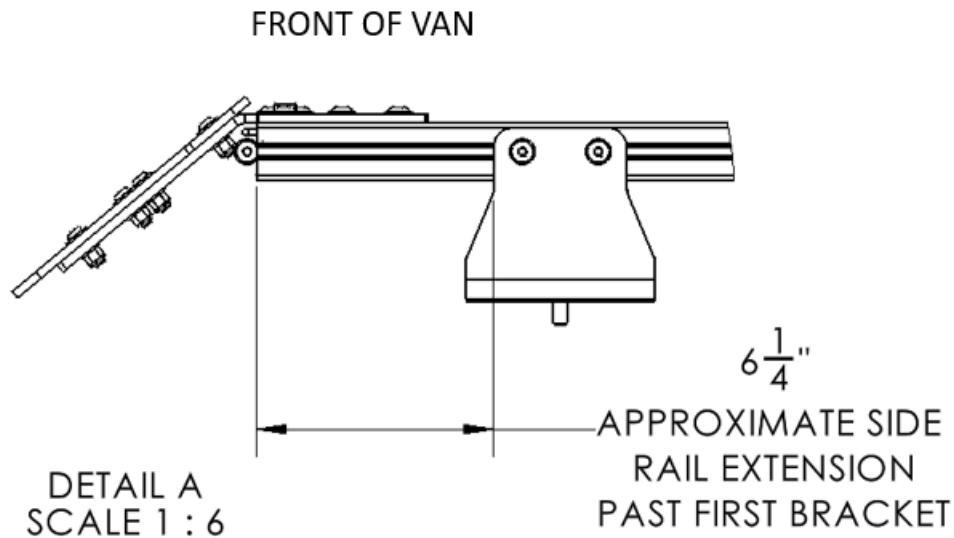

Figure 22: Front side rail location
7. Adjust the position of your side rail assemblies. This is best done with both side rails loosely in place and only being supported by a few pieces of hardware so that they are easier to move forward or backwards. Slide the side rail forward or backward as needed to achieve the 6.25" dimension shown in Figure 22 or is adjusted as desired. This 6.25" dimension is a recommendation. This is a good time to hold up the wind fairing and a cross bar assembly to make sure the location does not interfere with any parts of the van and matches the van profile as desired. Wherever the side rail assemblies end up use a tape measure to ensure that they are equal distances from the front rack bracket on both sides of the van.
3. Since the hardware on the side rails is still loose, go to the front Unaka Rack Bracket assembly and check the spacing of the side rails with respect to the bracket and wind fairing installation. Make sure the side rail position matches your final desired dimension as discussed Figure 22. Note Unaka called out 6.25" but you may have decided to use a different dimension here for a more ideal wind fairing fit.